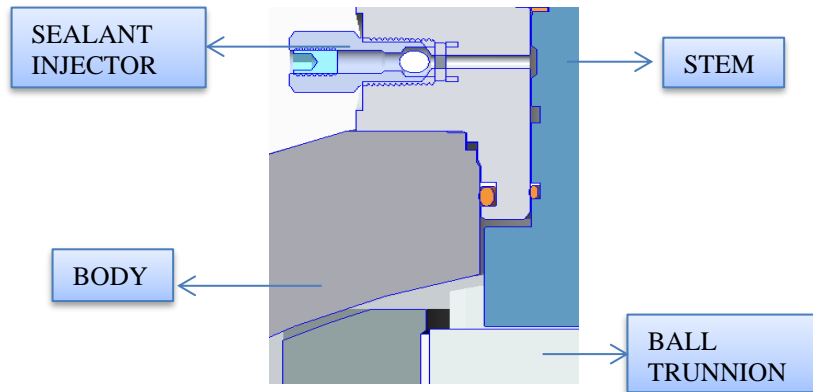

Fig. 7 - Stem sealant injection
- Attach the gun loaded with sealant on the sealant injector (fixed on the valve) (Fig.7.) and charge the sealant.